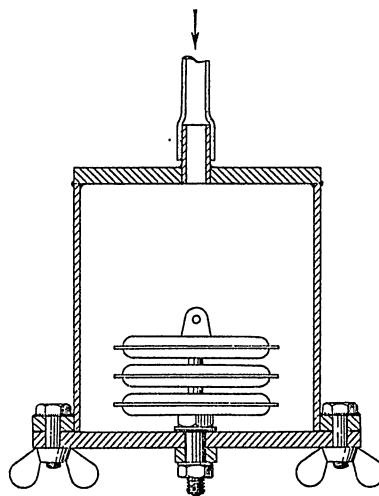

Fig. 13. Leak test adapter
26. Since this test involves the application of air pressure to the exterior of the assembly an adapter of the type illustrated in fig. 13 is required. Fit the assembly in the adapter, and connect to an air supply, the supply pipe being provided with a pressure gauge and a shut-off cock. Apply a pressure of 4 lb/in² then shut off the air supply. Over a period of 2 min. there must be no leakage.